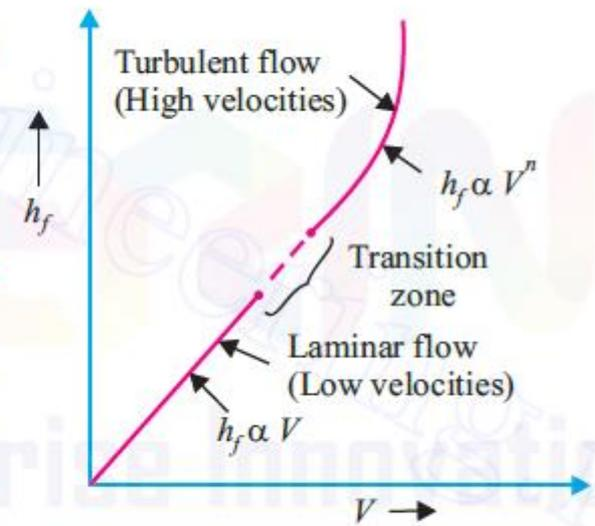

Fig. 10.4
- (iii) A graph was plotted between  $V$  (velocity of flow) and  $h_f$  (loss of head). Such a graph is shown in Fig. 10.4. It may be seen from the graph that: